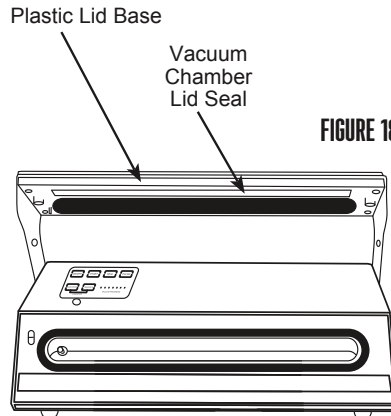

FIGURE 18
5. Remove the Vacuum Chamber Lid Seal from the groove in the Plastic Lid Base (**FIGURE 18**).